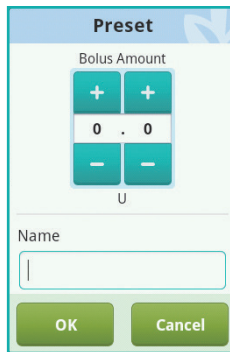

Figure 46
- 1 Add Preset: If a preset is empty, you may press anywhere on the button to open the Preset dialog box (Figure 46). Edit the parameters to create a new Preset.